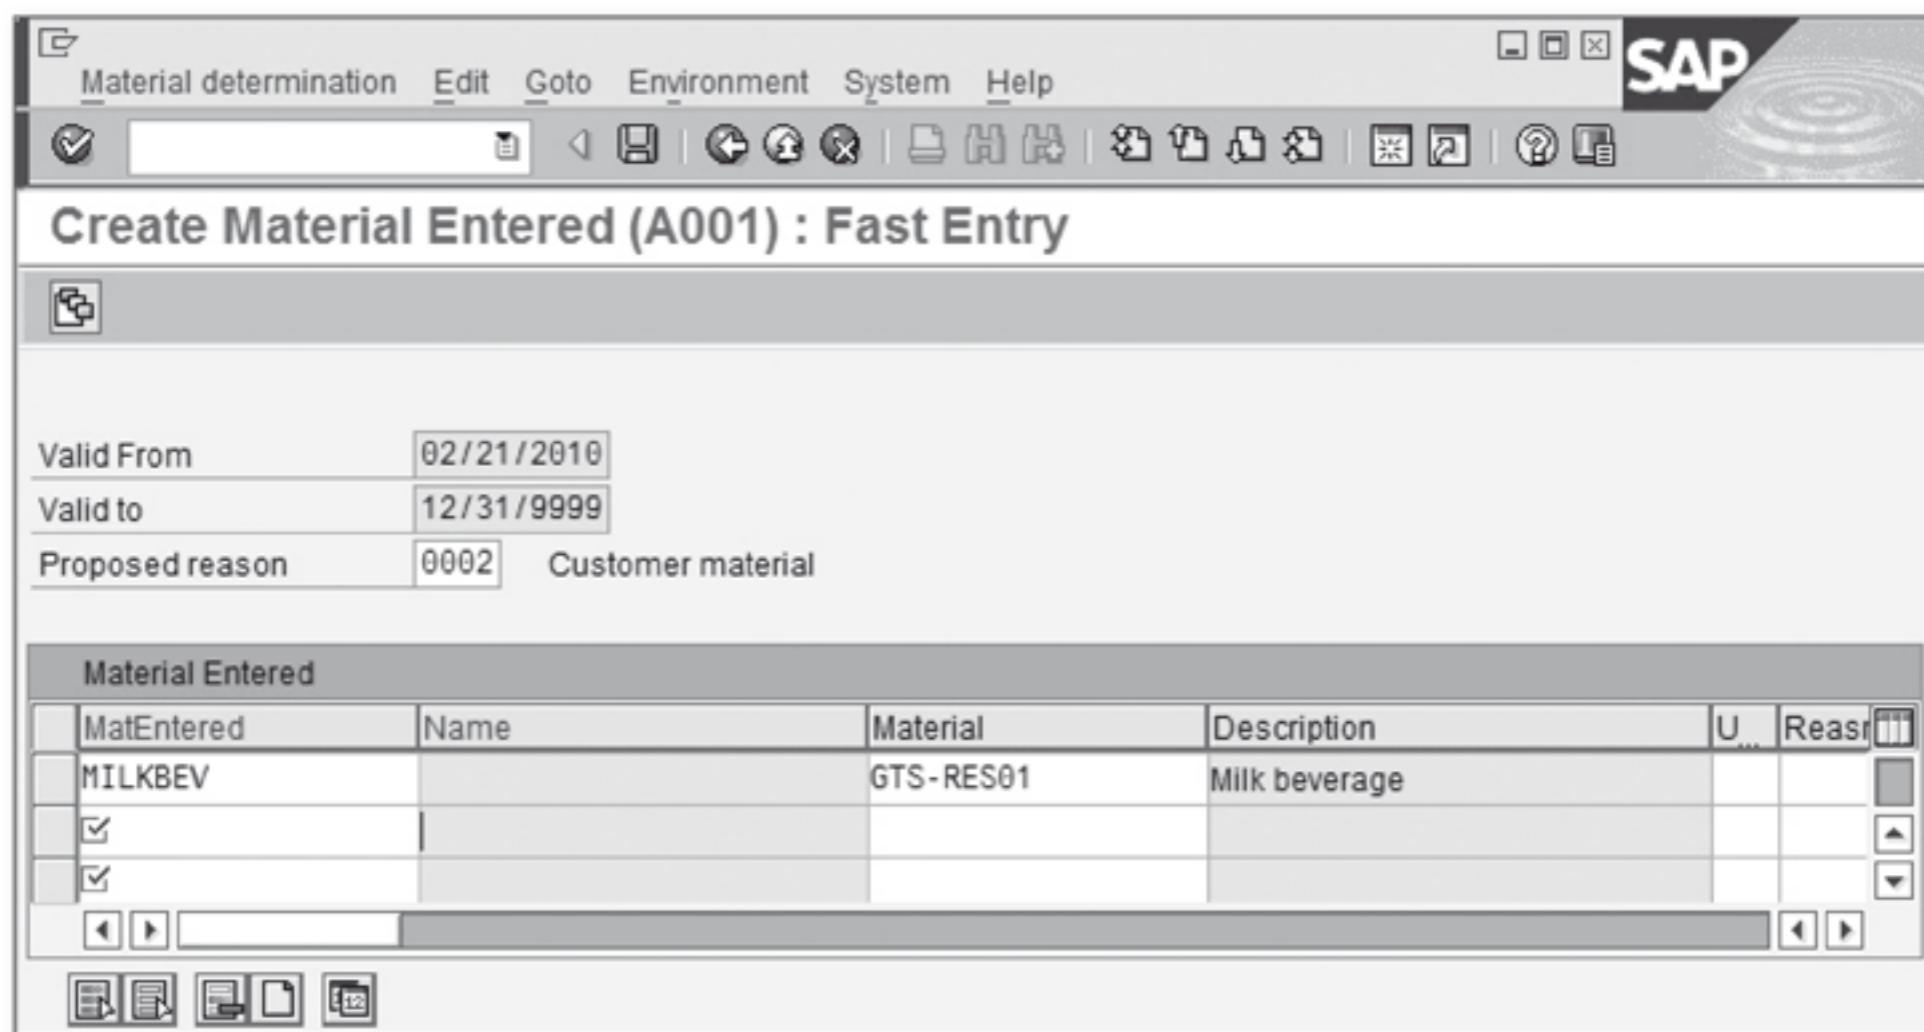

Figure 2.12 Create Material Determination – Fast Entry
3. Enter the validity period for the equivalence you're creating, the text for your customer's material in the MatEntered column, and the SAP Material Number in the Material column. You can also enter a reason for the substitution in the Description field (see Figure 2.12). If the reason applies for all of the materials in the list, then you can use the field at the top and the reason will be copied to the whole list.